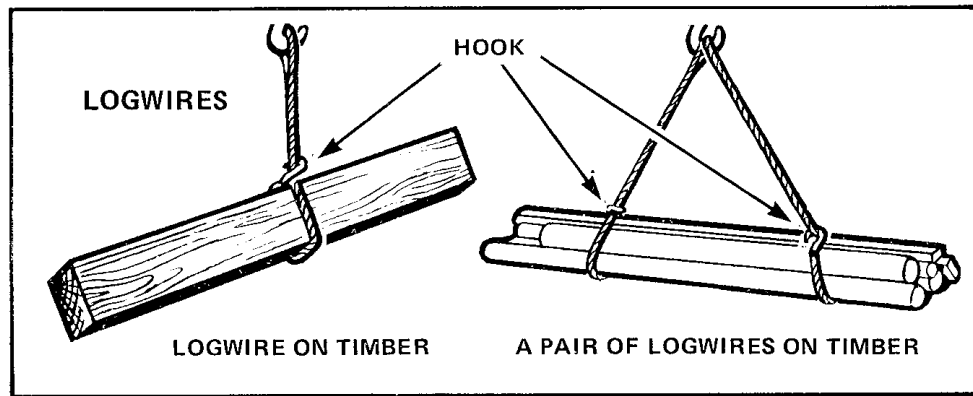

Figure 4-66 Logwires
16. **Logwires** — Along these same lines, a single sling with an eye at one end and a hook at the other is called a **logwire**. See Figure 4-66. Its purpose is to hoist timber. Logwires may be used singly or in parts.